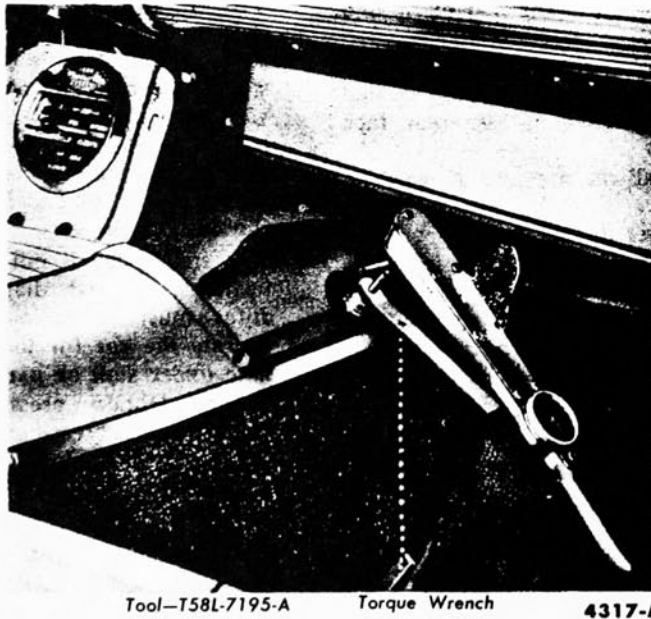

FIG. 10—Rear Band Adjustment
1. Remove the front console (Fig. 10) to expose the access hole, and then remove the cover from the hole.